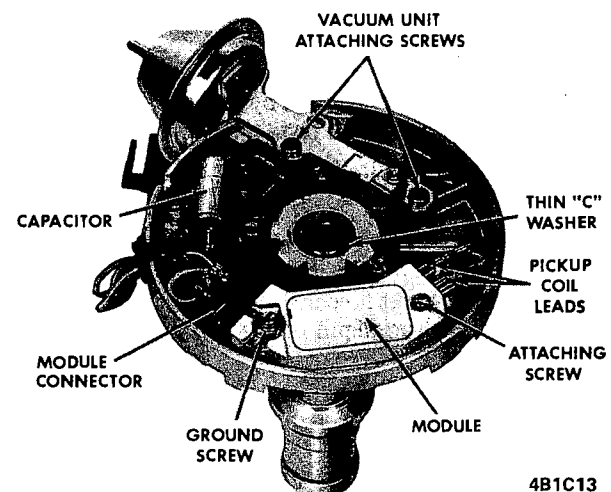

Figure 1C-6 - H.E.I. Distributor Housing V-8 Shown
3. Remove two vacuum advance retaining screws, pull advance unit outward, rotate and disengage operating rod from tang. See Figure 1C-6.
3. Remove two screws and module from distributor housing. See Figure 1C-6.